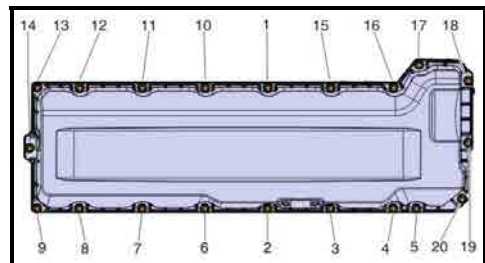

FIGURE 18
9. Install the spring-loaded bolts in the valve cover. Torque-tighten the valve cover bolts to 24 ± 4 Nm (18 ± 3 ft-lb) in the sequence shown (fig. 18).